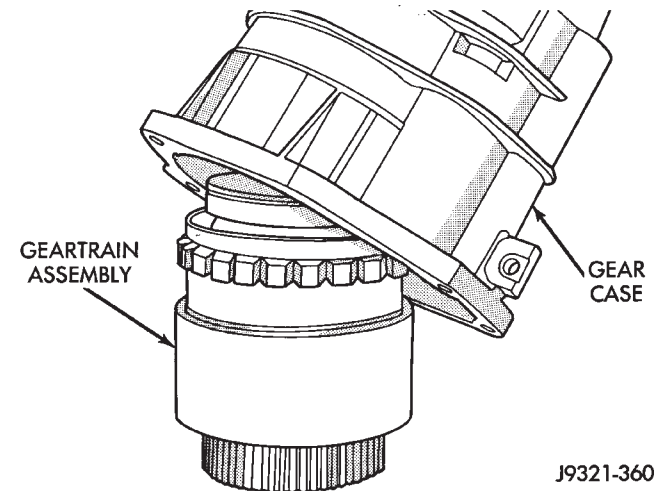

Fig. 241 Overdrive Gear Case Installation
(7) Support geartrain on Tool 6227-1 (Fig. 241). Be sure tool is securely seated in clutch hub.
(8) Install overdrive gear case on geartrain (Fig. 241).